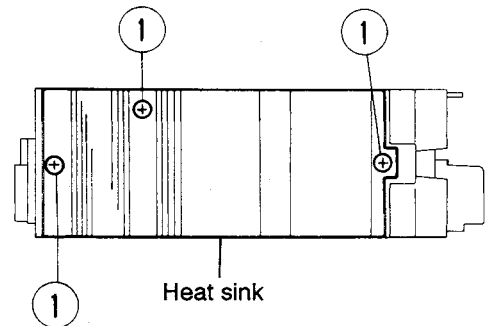

Fig. 2-4
■ Removing the heat sink (See Fig. 2-4)
2. Remove three screws ① retaining the heat sink.